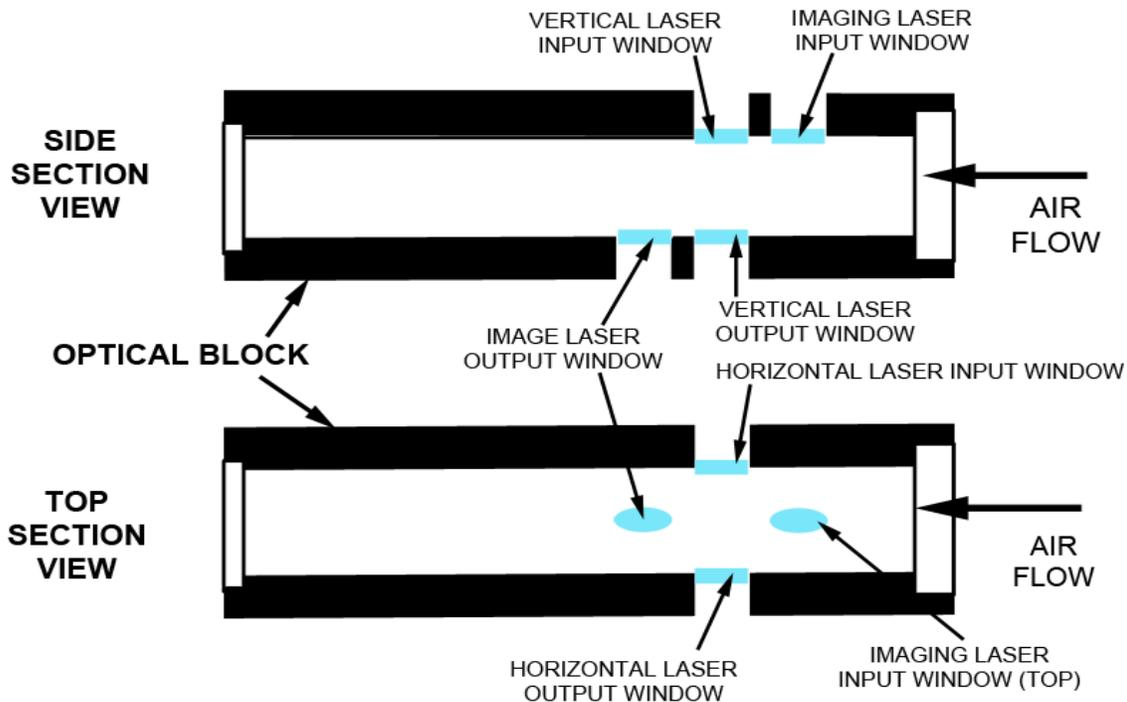

Figure 3.2.2. Cutaway of optical block showing laser beam locations and window locations.
2. Visually inspect each window. Shine a bright LED light on each window to look for contamination. **Figure 3.2.2** shows the relative location of each of the windows in the optical block.